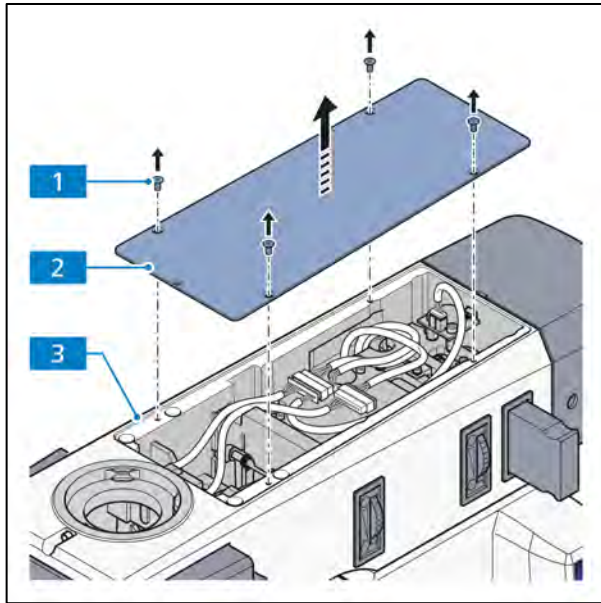

Fig. 3-53 Removing the cover of the upper stand part
- Unscrew the 4 screws (Fig. 3-53/1) of the cover and remove the cover (Fig. 3-53/2) from the upper stand part (Fig. 3-53/3).